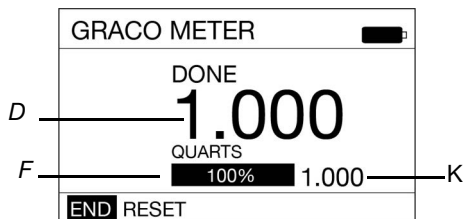

FIG. 33
- The screen shown in FIG. 33 displays. Notice the word “DONE” near the top of the screen, confirming the requested PRESET amount of fluid has been dispensed. The progress bar (F) now is entirely filled in and shows 100% of the fluid requested has been dispensed and the Dispensed Fluid Counter (D) now shows 1.000 matching the chosen PRESET parameters (K).